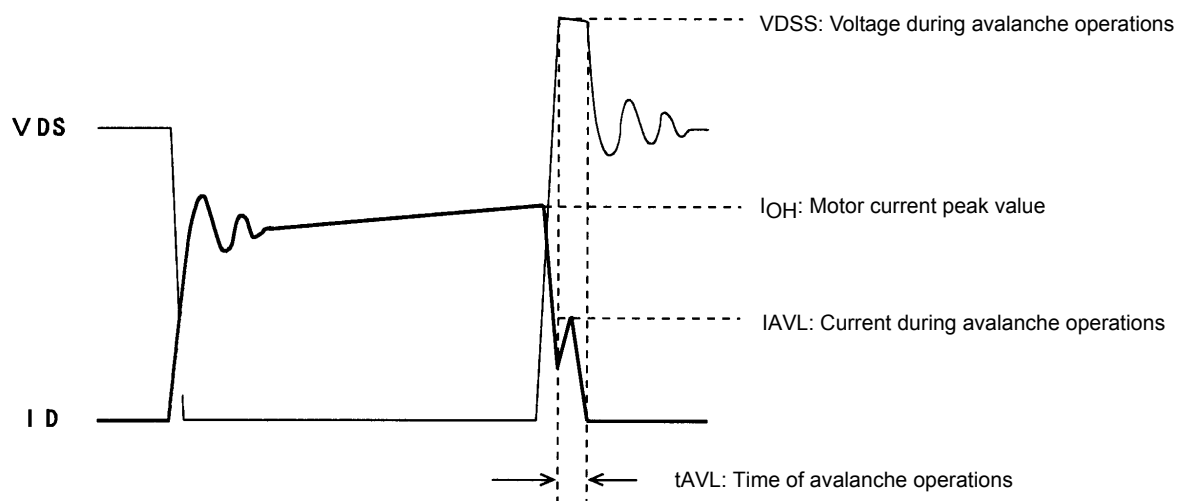

Figure 1 Output Current, I_D , and Voltage, V_{DS} , Waveforms 1 of the STK672-4** Series when Driving a 2-Phase Stepper Motor with Constant Current Chopping
When driving a 2-phase stepping motor with constant current chopping using an STK672-4** Series hybrid IC, the waveforms shown in Figure 1 below result for the output current, I_D , and voltage, V_{DS} .
Although the waveforms during avalanche mode are given in Figure 1, sometimes an avalanche does not result during actual operations.
- Increases in V_{DS} , t_{AVL} , and I_{AVL} in Figure 1 due to an increase in the supply voltage from 24V to 36V.
If the factors above are negligible, the waveforms shown in Figure 1 become waveforms without avalanche as shown in Figure 2.